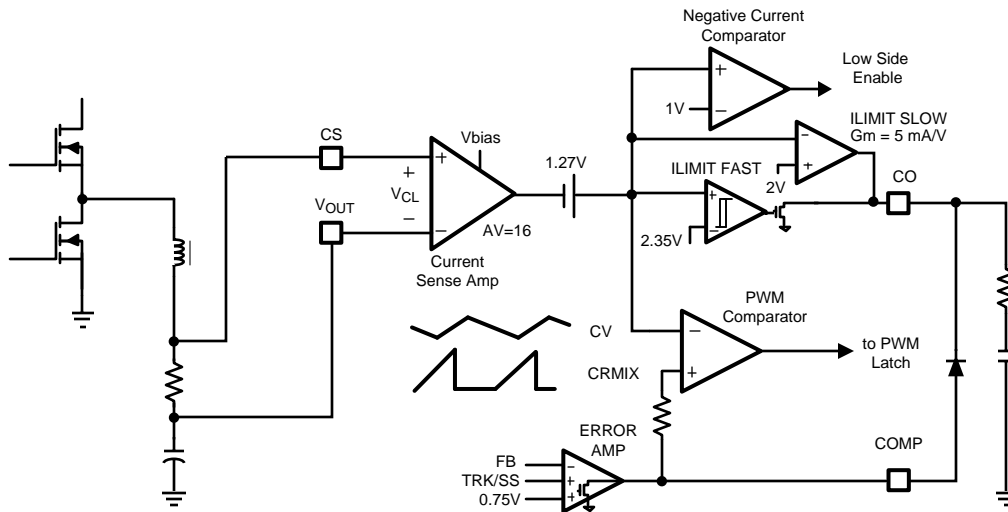

Figure 21. Current Sensing and Limiting
The current sense amplifier shown in Figure 21 monitors the inductor current as it flows through a sense resistor connected between CS and VOUT. The voltage gain of the sense amplifier is nominally equal to 16. The current sense output signal is shifted by 1.27V to produce the internal CV reference signal. The CV signal is applied to the negative input of the PWM comparator and compared to CRMIX as illustrated in Figure 21. Therefore when CRMIX exceeds the PWM threshold (CV), the PWM comparator turns on the high-side MOSFET. Insure that the Vbias voltage is at least 3V above the regulated output voltage (VOUT) to provide enough headroom for the current sense amplifier.
Current limiting is implemented through the current sense amplifier as illustrated in Figure 21. The current sense amplifier monitors the inductor current that flows through a sense resistor connected between CS and VOUT. The voltage gain of the current sense amplifier is nominally equal to 16. The output of current sense signal is shifted by 1.27V to produce the internal CV reference signal. The CV signal drives two current limit amplifiers. Both of the current limit amplifiers have open drain (sink only) output stages which are connected to the CO pin. The CO pin is typically connected to the COMP pin through a diode (the cathode is connected to the CO pin and the anode is connected to the COMP pin). The slow current limit amplifier has a nominal transconductance of 5 mA/V and provides constant current mode operation at the desired current limit set point. The fast current limit amplifier has nominal current pull-down capability of 100mA and provides protection against fast over-current conditions. During normal operation, the voltage error amplifier controls the COMP pin voltage which adjusts the PWM duty cycle by varying the internal CRMIX level. However when the current sense input voltage, V_{CL} , exceeds 45mV, the slow current limit amplifier gradually pulls down on COMP through the CO pin. Pulling COMP low reduces the CRMIX signal and thereby reducing the operating duty cycle. By controlling the operating duty cycle, the slow current limit amplifier will force a constant current mode of operation at the desired current limit set point (Figure 23). A resistor in series with a capacitor are connected from the CO Pin to ground to provide adequate control loop compensation for the slow current limit (Figure 21). The desired current limit set point, I_{Limit} , can be programmed by selecting the proper current sense resistor, R_{SENSE} , using the following equation:
Under certain conditions synchronous buck regulators are capable of sinking current from the output capacitors. This energy is stored in the inductor and returned to the input source. The LM25115A detects this current reversal by detecting a negative voltage being developed across the current sense resistor. The intent of this negative current comparator is to protect the low-side MOSFET from excessive currents. Excessive negative current can also lead to a large positive voltage spike on the HS pin at the turn-off of the low-side MOSFET. This voltage spike may damage the chip if its magnitude exceeds the maximum voltage rating of the part. The negative current comparator threshold is sufficiently negative to allow inductor current to reverse at no load or light load conditions. It is not intended to support discontinuous conduction mode with diode emulation by the low-side MOSFET. The negative current comparator shown in Figure 21 monitors the CV signal and compares this signal to a fixed 1V threshold. This corresponds to a negative V_{CL} voltage between CS and VOUT of -17mV. The negative current limit comparator turns off the low-side MOSFET for the remainder of the cycle when the V_{CL} input falls below this threshold.